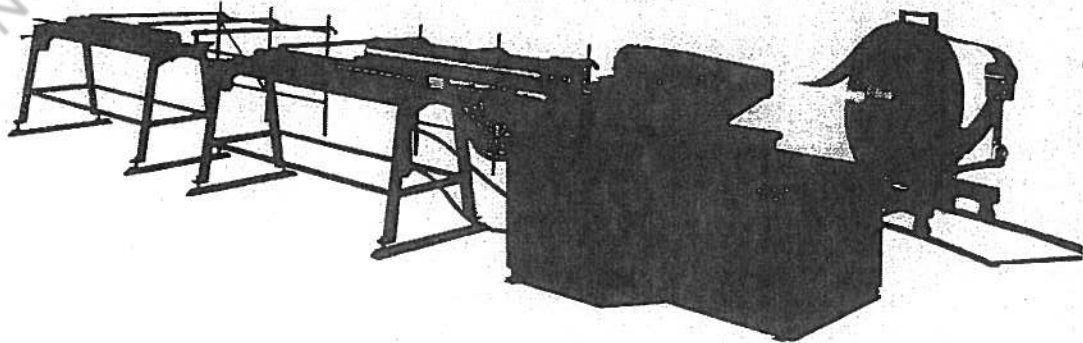

Fig. 1 - HELIX-200 Automatic Spiral Tubeformer
- 1.1 This manual is issued to provide instructions for installing, operating, and maintaining the HELIX-200 Automatic Spiral Tubeformer (Fig. 1).